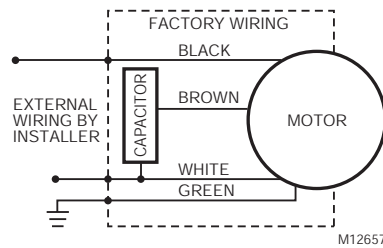

Fig. 3. Typical F111 (series 11000) 120V, 60 Hz or 208/230, 50/60 Hz wiring diagram.
4. Refer to Fig. 3 and 4 for typical wiring diagrams.